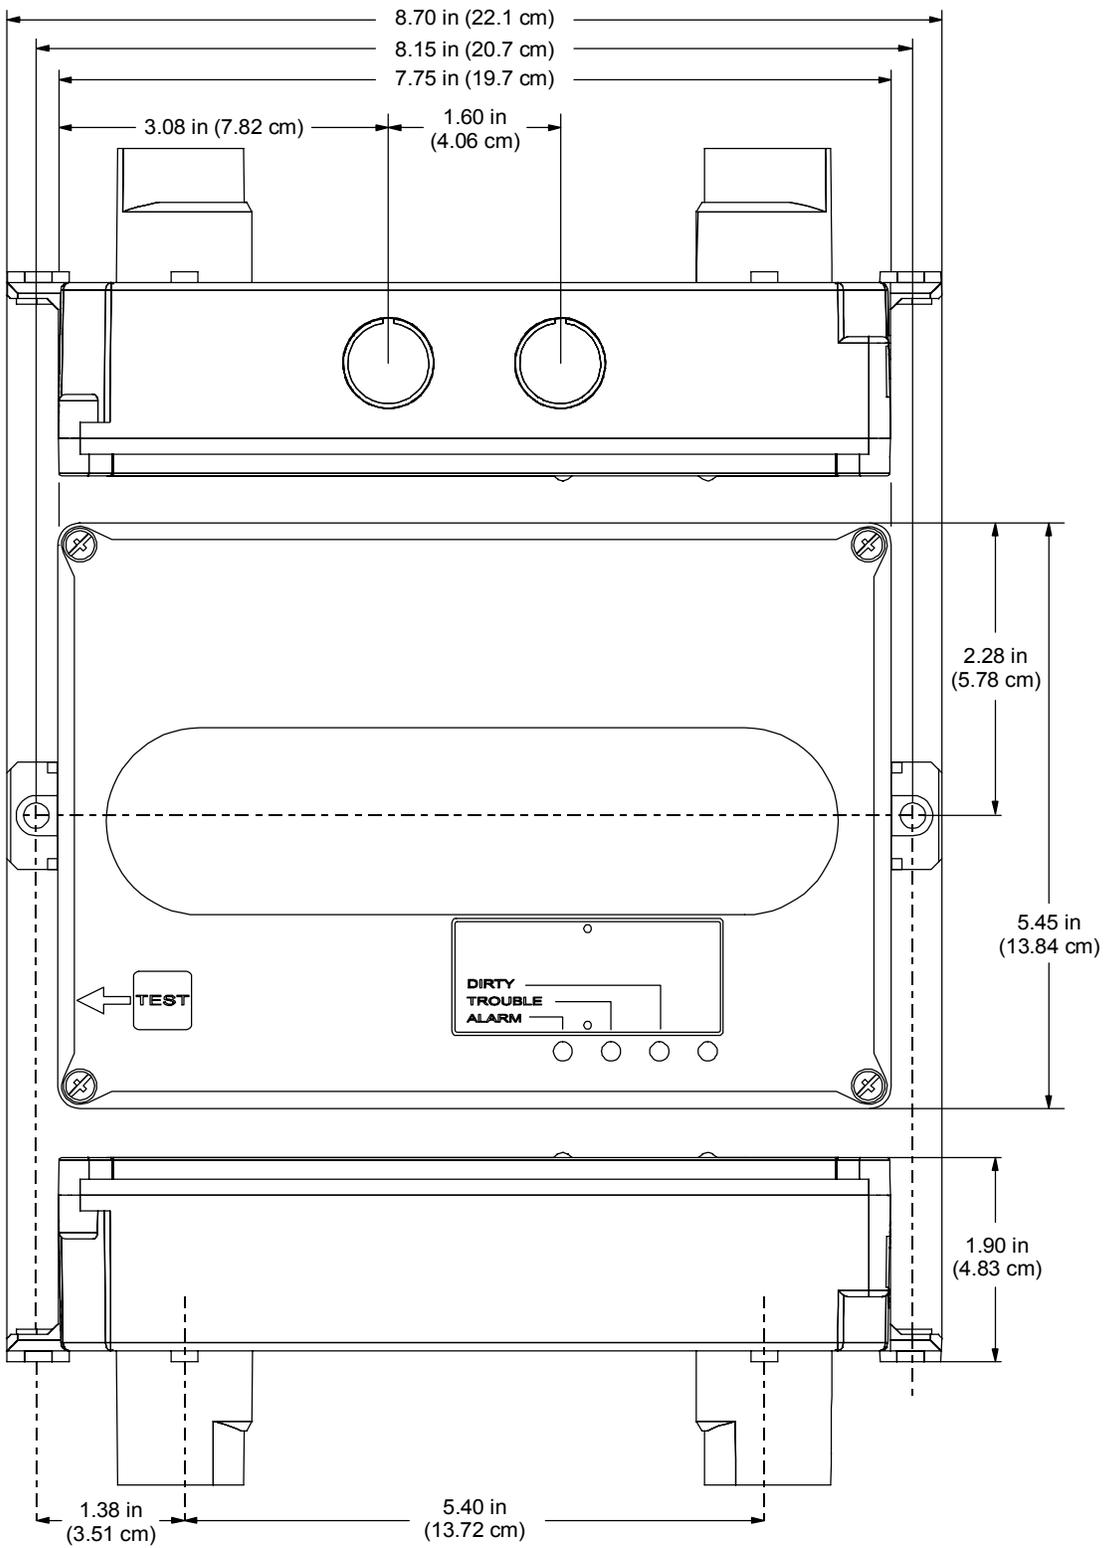

Figure 7: Mechanical dimensions
- Locate the detector so its sampling tube is positioned in a straight length of square duct between six and ten duct widths from any bends or obstructions as shown in the diagram below. See Figure 7 for detector dimensions.